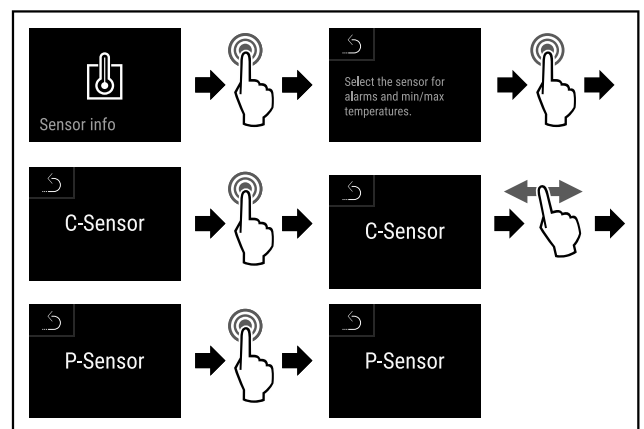

Fig. 174
- ▶ Complete steps (see Fig. 174) .